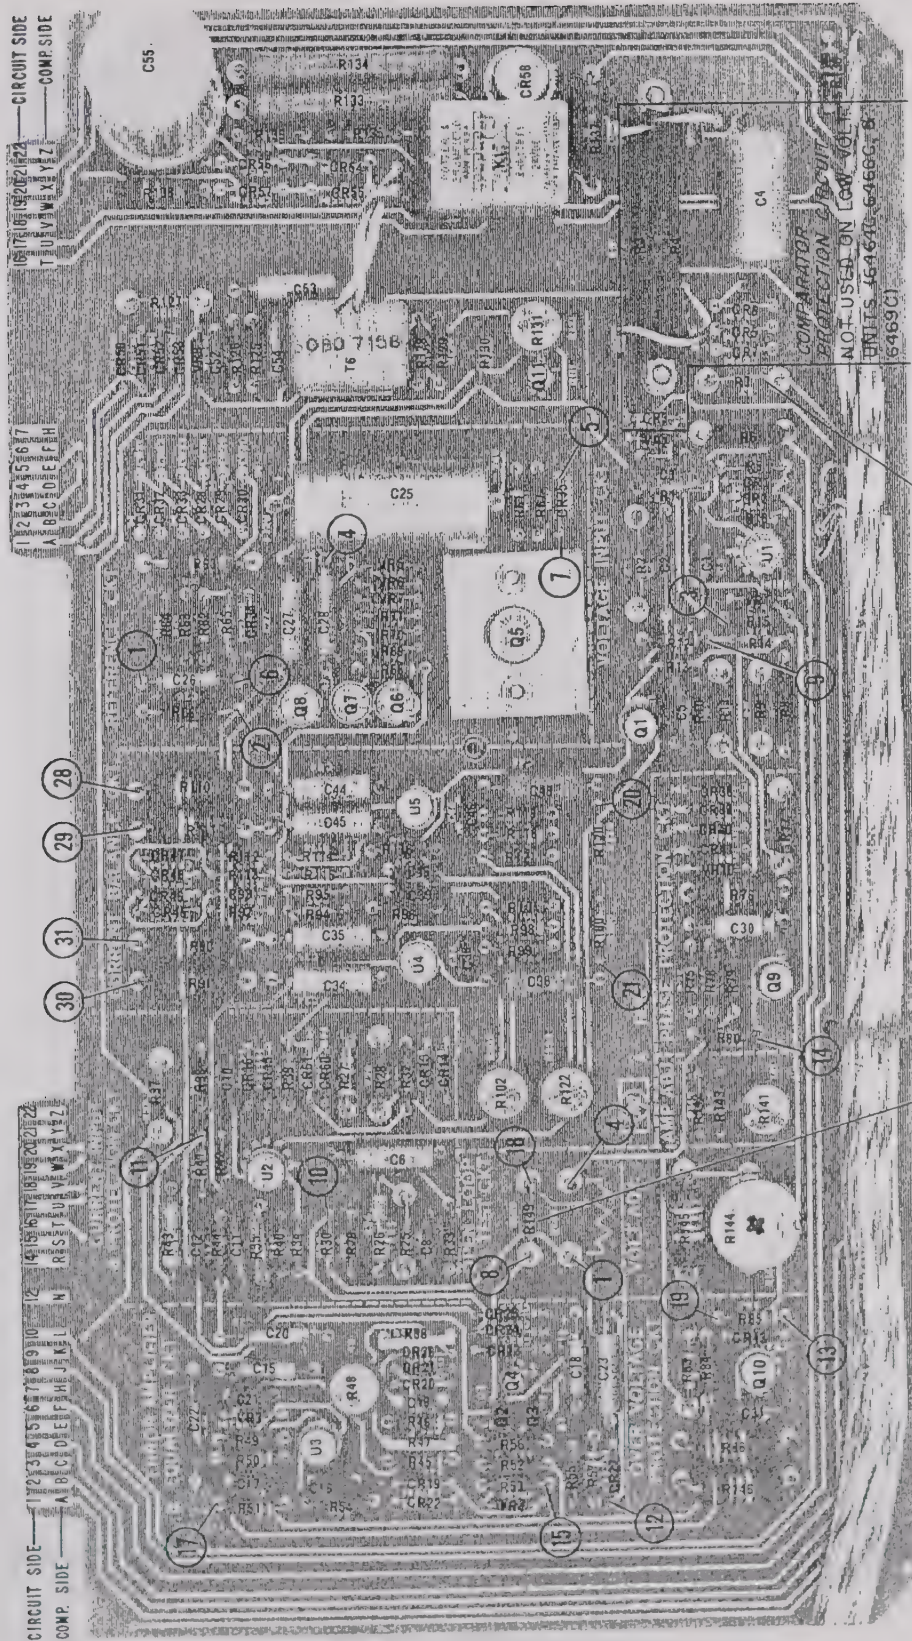

Figure 7-1. A1 Amplifier Board, Component Location
- a. Component location photographs (Figures 7-1 through 7-5), showing the physical location and reference designators of parts mounted on the printed circuit boards and chassis.